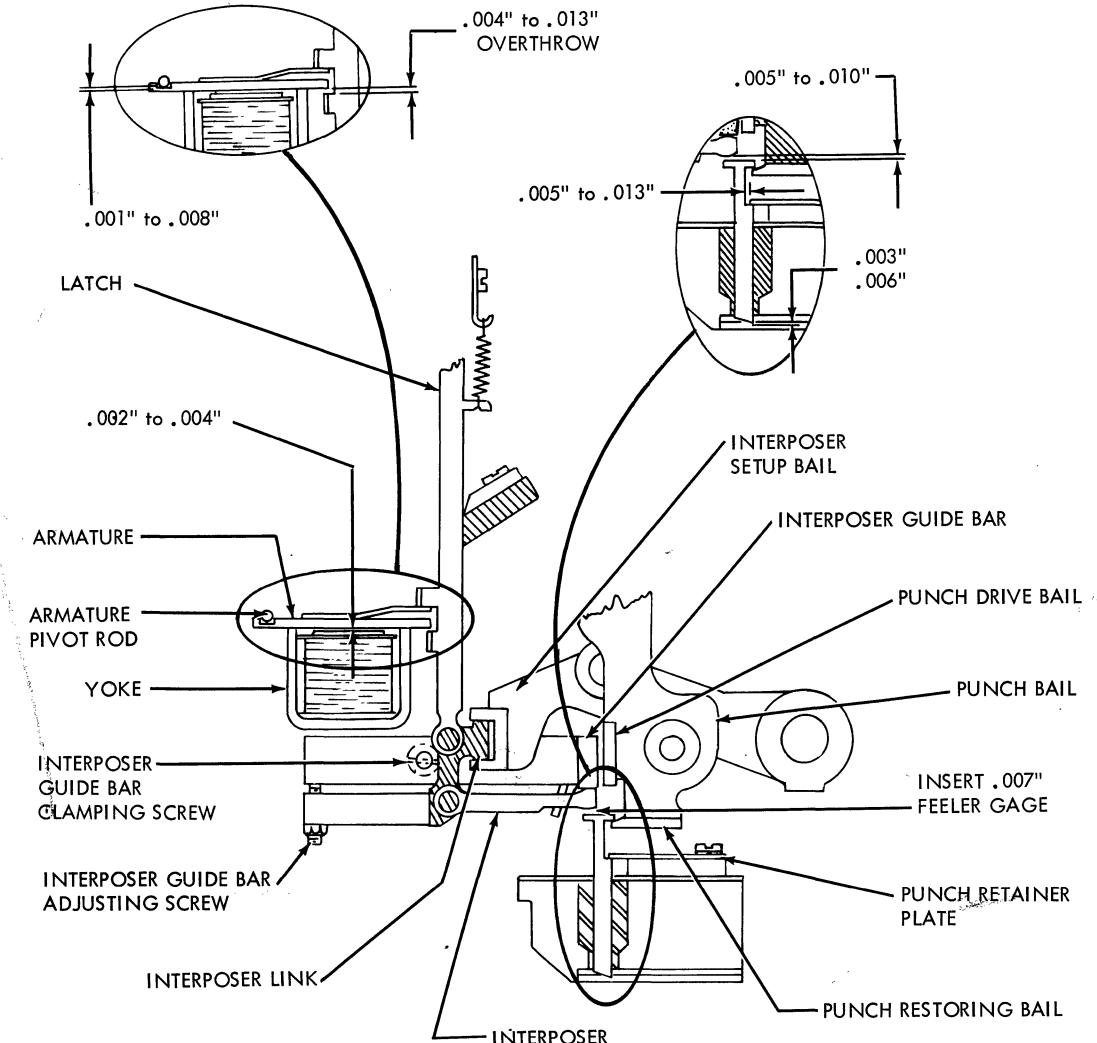

Figure 4-15. Punch Unit Adjustments
The interposer setup bail is a U-shaped channel. A projection on each of the 80 interposer links rides in the channel (Figure 4-15). As the interposer setup bail moves down, all the interposer links move down, carrying with them the 80 latches. This pulls each armature against its yoke. If punching is to take place, the magnet is energized at this time. Because the armature did not have to be attracted electrically, very low current is required to keep the armature sealed against its yoke. For this reason, the unit is sometimes referred to as a "no-work" punch unit.
Magnet Bar Assembly Adjustment (Figure 4-15)
3. Check for .004" to .013" clearance between the lower side of the armature and the latch at both the column 1 and column 80 ends of the unit (Figure 4-15).
b. Loosen magnet unit adjusting lock nuts and adjust screws for .004" to .013" clearance between armature and latch (Figure 4-15). The magnet unit locating screws hold the magnet unit against the adjusting screws.
3. Carefully place drive unit on magnet unit so that all 80 interposer links fit into the interposer setup bail (Figure 4-15).
- a. Check for .004" to .013" latch overtravel (Figure 4-15).
- b. Check for .005" to .010" interposer to punch clearance (Figure 4-15).
- a. With the punch magnet de-energized, insert a .007" feeler gage between punch and interposer (Figure 4-15).
- a. Loosen interposer guide bar clamping screws slightly (Figure 4-15).
3. Remove latch spring in position to be removed (Figure 4-15).
3. Adjust retainer plate for .005" to .013" clearance between plate and punches (Figure 4-15).